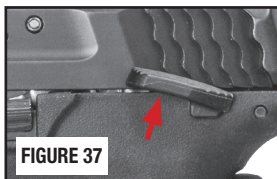

FIGURE 37
- If your pistol is equipped with a manual thumb safety, place the manual thumb safety lever up in the SAFE position (FIGURE 37).